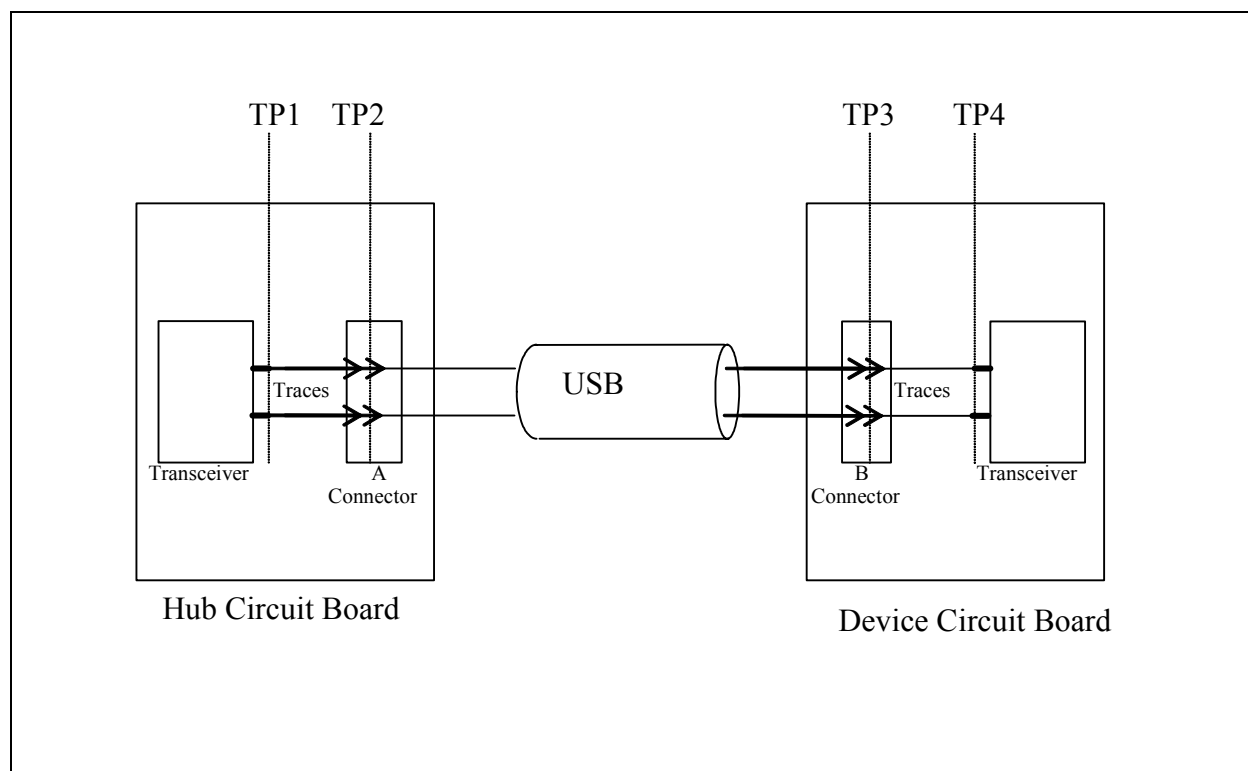
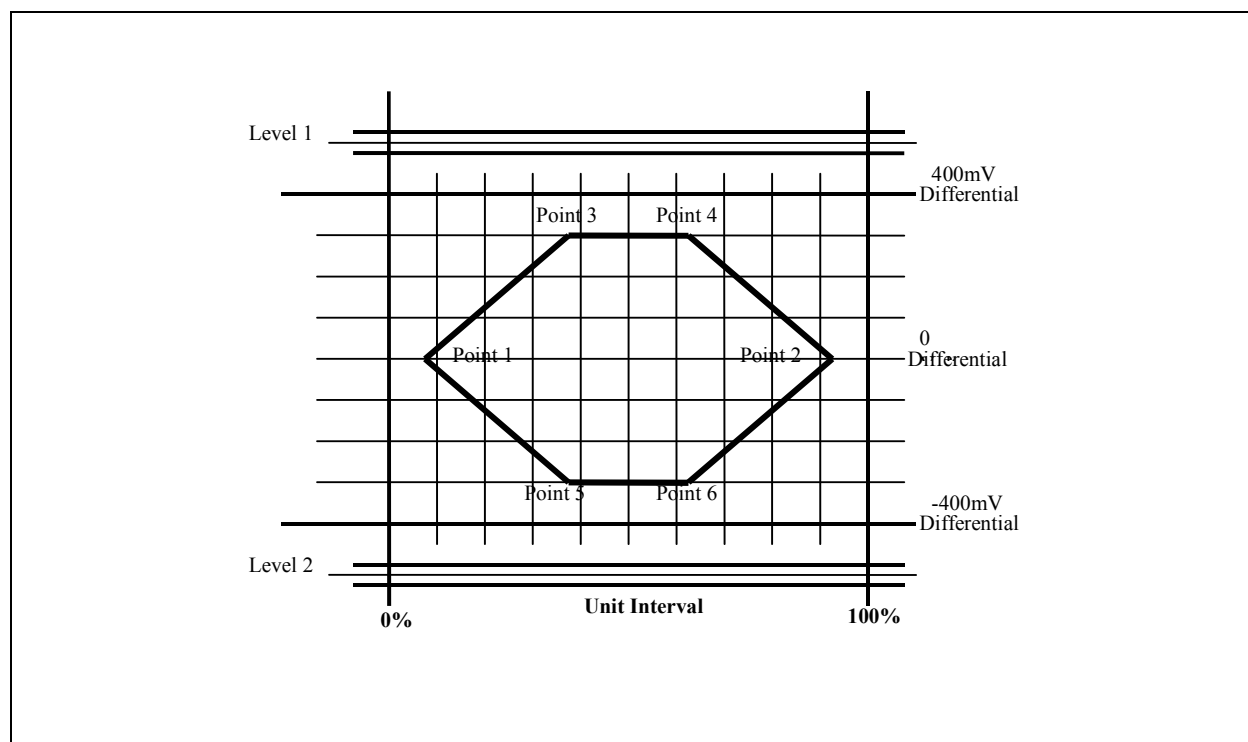
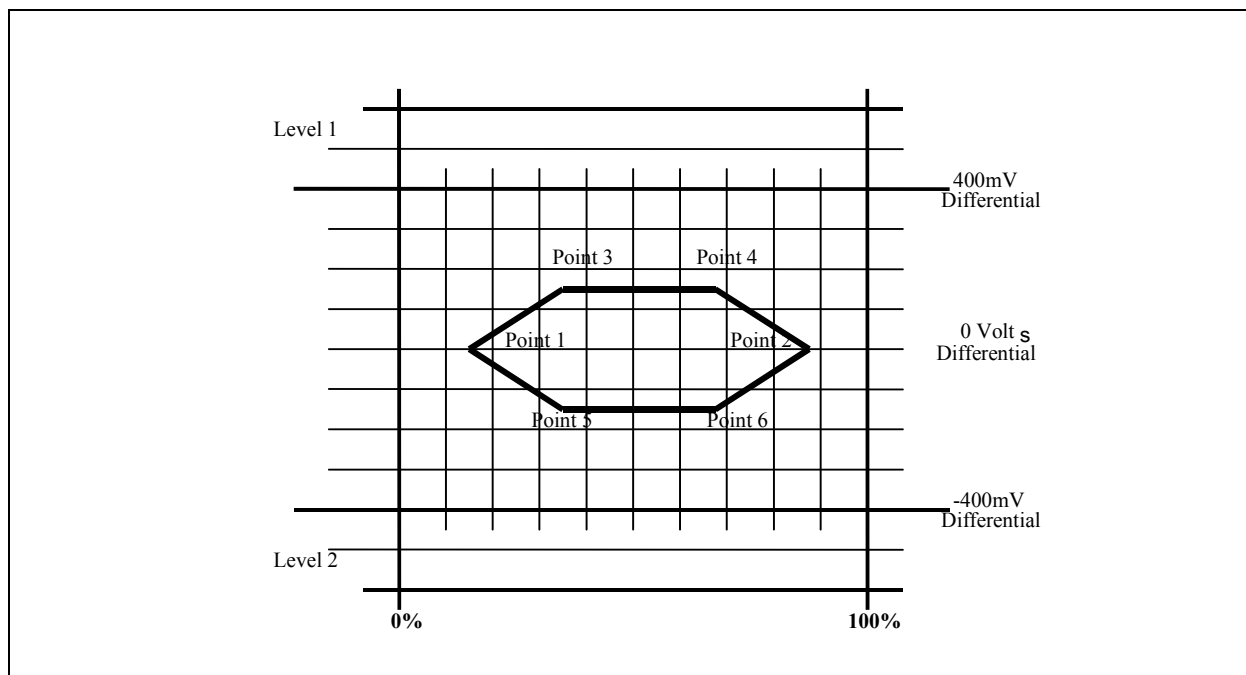

Figure 6.3 Eye Pattern Measurement Planes
Figure 6.4 Eye Pattern for Transmit Waveform and Eye Pattern Definition
Figure 6.5 Eye Pattern for Receive Waveform and Eye Pattern Definition
High-speed USB signals are characterized using eye patterns. For measuring the eye patterns 4 points have been defined (see Figure 6.3). The Universal Serial Bus Specification Rev.2.0 defines the eye patterns in several 'templates'. The two templates that are relevant to the PHY are shown below.
The eye pattern in Figure 6.4 defines the transmit waveform requirements for a hub (measured at TP2 of Figure 6.3) or a device without a captive cable (measured at TP3 of Figure 6.3). The corresponding signal levels and timings are given in Table 6.6. Time is specified as a percentage of the unit interval (UI), which represents the nominal bit duration for a 480 Mbit/s transmission rate.
The eye pattern in Figure 6.5 defines the receiver sensitivity requirements for a hub (signal applied at test point TP2 of Figure 6.3) or a device without a captive cable (signal applied at test point TP3 of Figure 6.3). The corresponding signal levels and timings are given in Table 6.7. Timings are given as a percentage of the unit interval (UI), which represents the nominal bit duration for a 480 Mbit/s transmission rate.